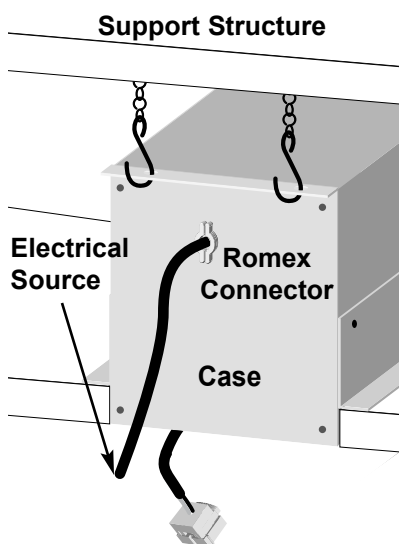

Figure 2: Mounted case
The unit is usually suspended, as shown in Figure 2, but it can be secured to the ceiling using bolts or other appropriate fasteners.
3. Drywall or other ceiling material may be screwed directly to the ceiling flanges on the case. Refer to Figure 2.